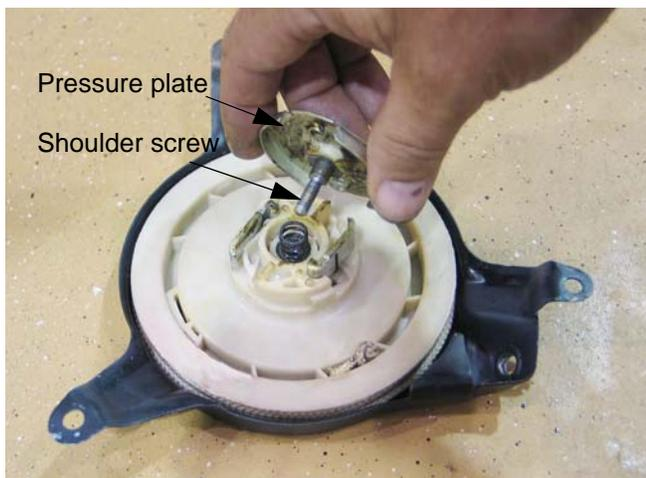

Figure 6.9
2. Remove the shoulder screw and pressure plate using a 10 mm wrench. See Figure 6.9.